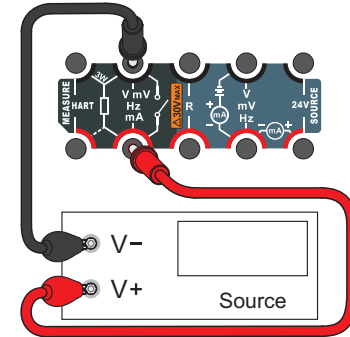

Figure 8 2 Millivolts or Volts Measurement
In the Basic Mode (as Figure 8 1) ,if the measurement area is active ,you can press the function keys ( **V/Hz** ,  **$\Omega$**  , **TC/RTD** , **mA** ,  **$\mu$**  ) which will display the corresponding items.Anytime that you want to access the non-active area, press the desired function key twice and the non-active area will become active (e g if the source area is active and you would like to change the measure function from mA to V then press **V/Hz** twice and the measure area becomes active and the **V/Hz** list appears for you to chose fom). To change any of measurement parameters ,the measurement area must be in an active state .Areas can also become active by selecting the Up/Down keys .
- 1 .Figure 8 2 shows the millivolts measurement connections .
- 1 .Figure 8 2 shows the volts measurement connections .
- 1 .Figure 8 3 shows the frequency measurement connections .
- 1 .Figure 8 4 shows the pulse counting connections .